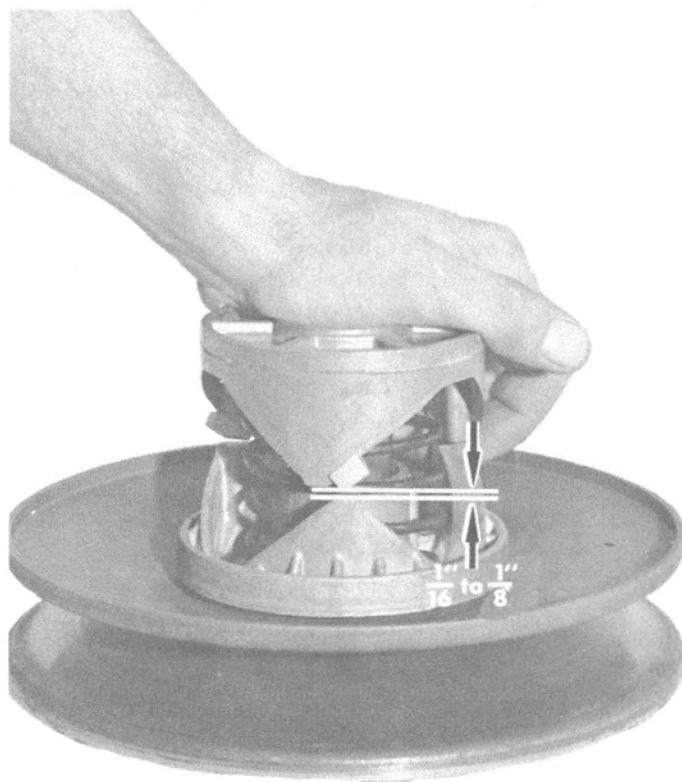

Figure 5. Installing Torque Bracket
5. Compress spring until  $\frac{1}{16}$ " to  $\frac{1}{8}$ " in clearance is obtained between ramps. (Figure 5)